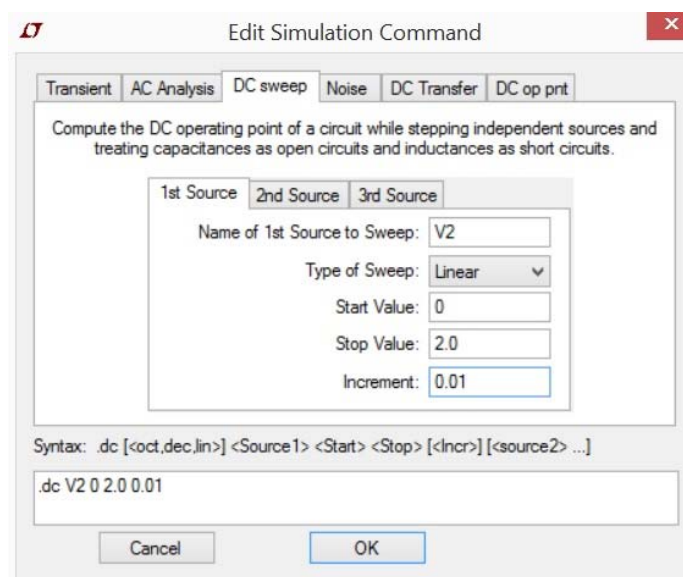

Figure 18. Edit simulation command
- E. Select the **DC sweep** tab on the Edit Simulation Command form, **enter** the fields under the 1st Source as Figure 18, click **OK** on the form, and then **click the schematic window** to put the command on the window.
Note: Figure 18 shows that it will do DC analysis with sweep V2 from 0V to 2.0V in a step size of 0.01 volts.